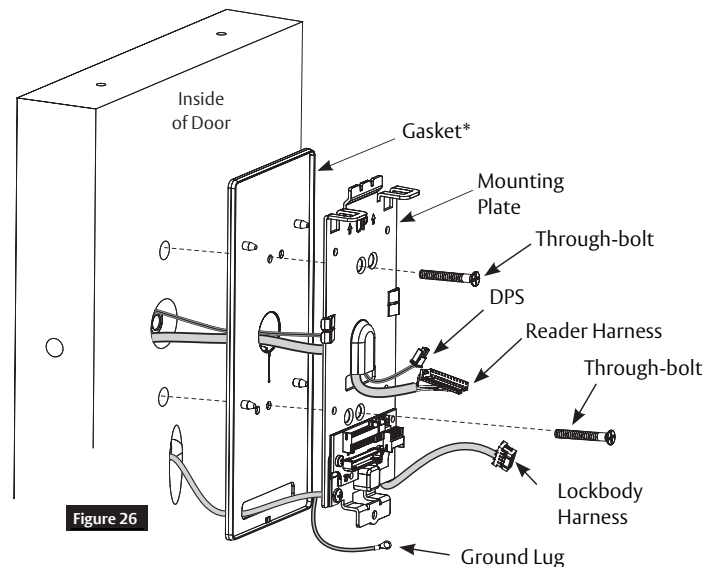
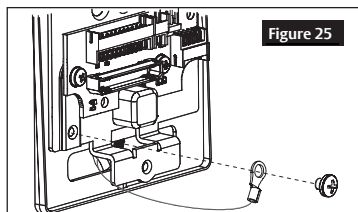
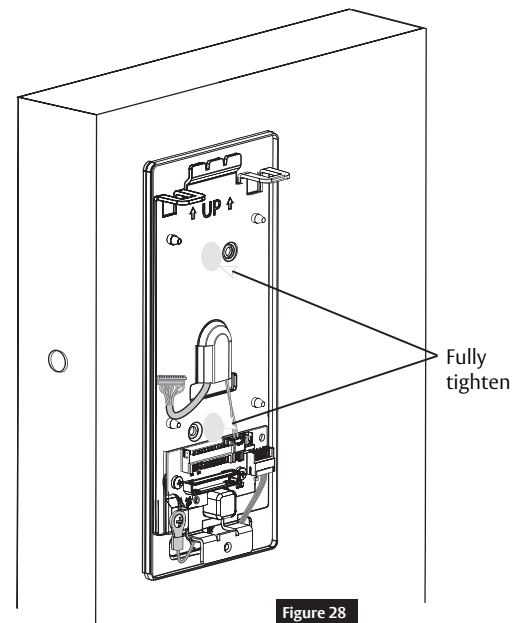

Figure 26
Figure 25
Figure 28
4. Feed reader harness and DPS connectors through inside mounting assembly and gasket if required\*. (Figure 25)
- Do not run wires through bottom flange hole in plate - it will damage wires and controller connector. (Figure 25, Figure 26)
- Route wires around flange, do not route wires through flange hole. (Figure 25)
- 6. Begin to secure mounting assembly by partially tightening two (2) through-bolts on inside of door while ensuring proper alignment as reader is secured. (Figure 25)
- 7. Secure ground lug with #6-32 machine screw. (Figure 26)
- If installing with gasket, separate gasket from mounting plate to feed cables/connectors through holes as indicated (Figure 25)
Route wires around flange, do not route wires through flange hole. (Figure 26, Figure 28).
3. Secure mounting assembly while ensuring proper alignment of outside reader and tighten two (2) through-bolts on inside of door to secure reader. (Figure 28)